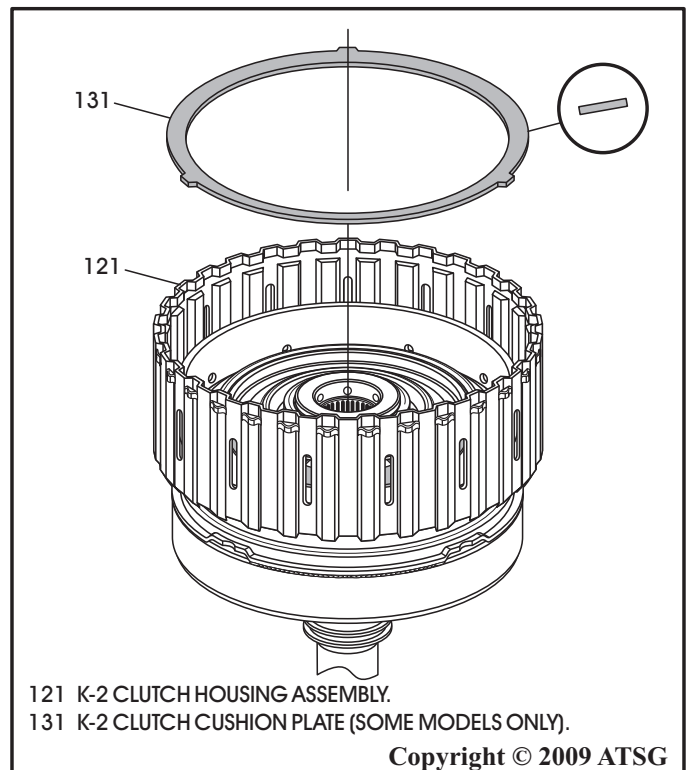

Figure 107
16. Install the K-2 clutch dished cushion plate, in the direction shown in Figure 107.